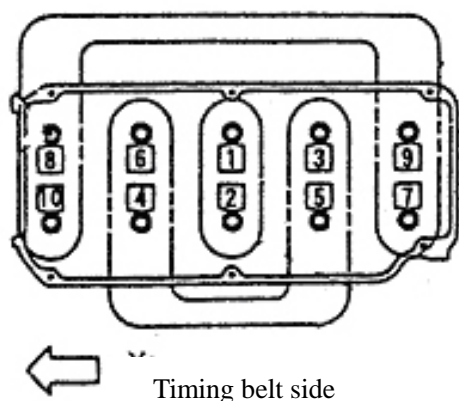

Fig.4-35
d Screw the bolt follow the steps in the picture, till the moment or every bolt reach 49Nm, see Fig.4-35.
- f Screw the bolt follow the steps in the picture again, till the moment or every bolt reach $20 \pm 2\text{Nm}$, see Fig.4-35.